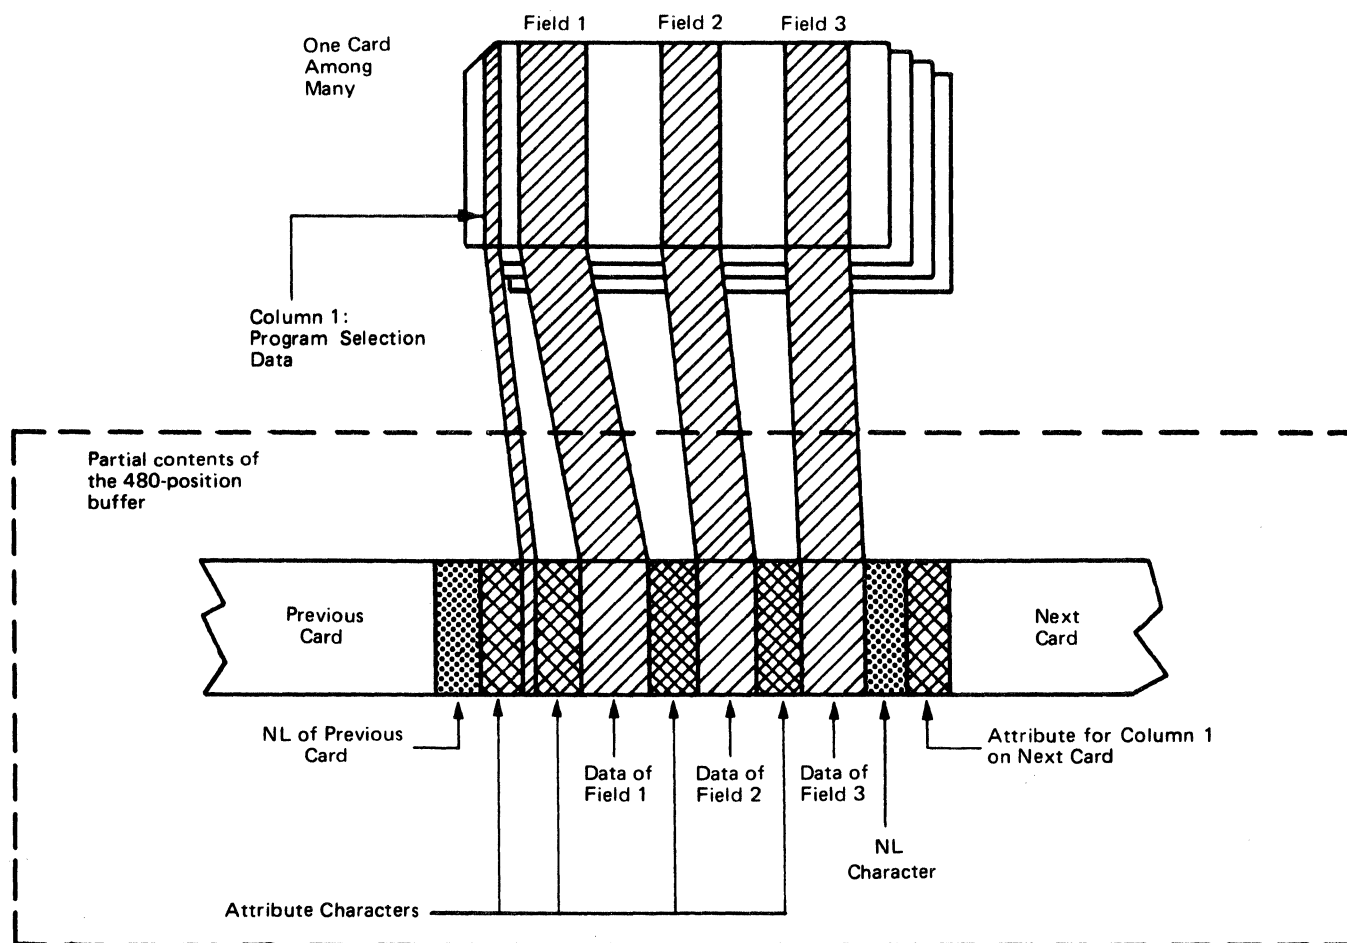

Figure 2. How Card Fields Transfer to the 480-Position Buffer in Formatted Read
- Figure 2. How Card Fields Transfer to the 480-position Buffer in Formatted Read
An NL character is inserted at the end of each card (Figure 2).